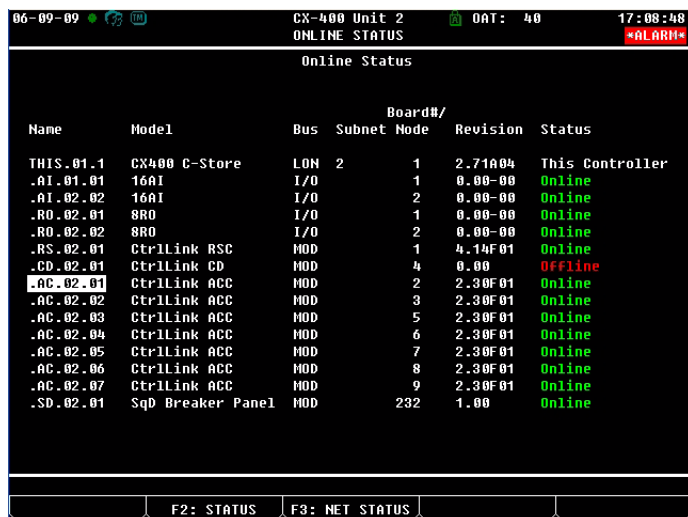

Figure 16 - Online Status Screen
8. When finished, press  to return to the Network Setup menu, then press  - **Online Status (Figure 16)**. Locate the Control Link ACCs you set up, and look at each device's status in the **Status** field. You will see one of the following messages: